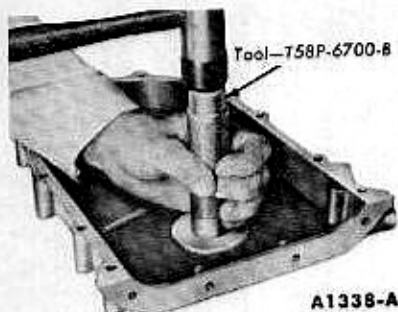

FIG. 42—Oil Seal Installation
2. Coat a new seal with grease. Install the seal (Fig. 42).